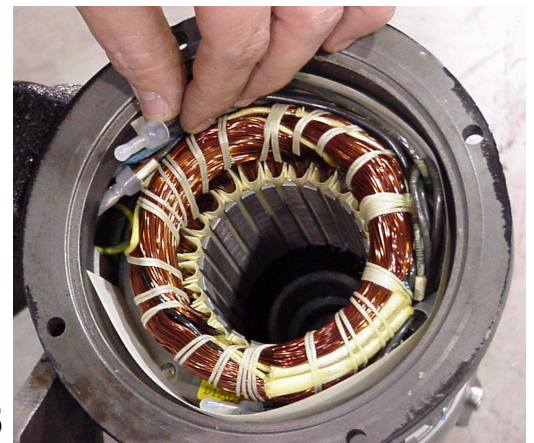

Fig. 5
11. Gently tuck wire bundles behind stator windings, being certain nothing extends below the motor housing. (Fig. 5)